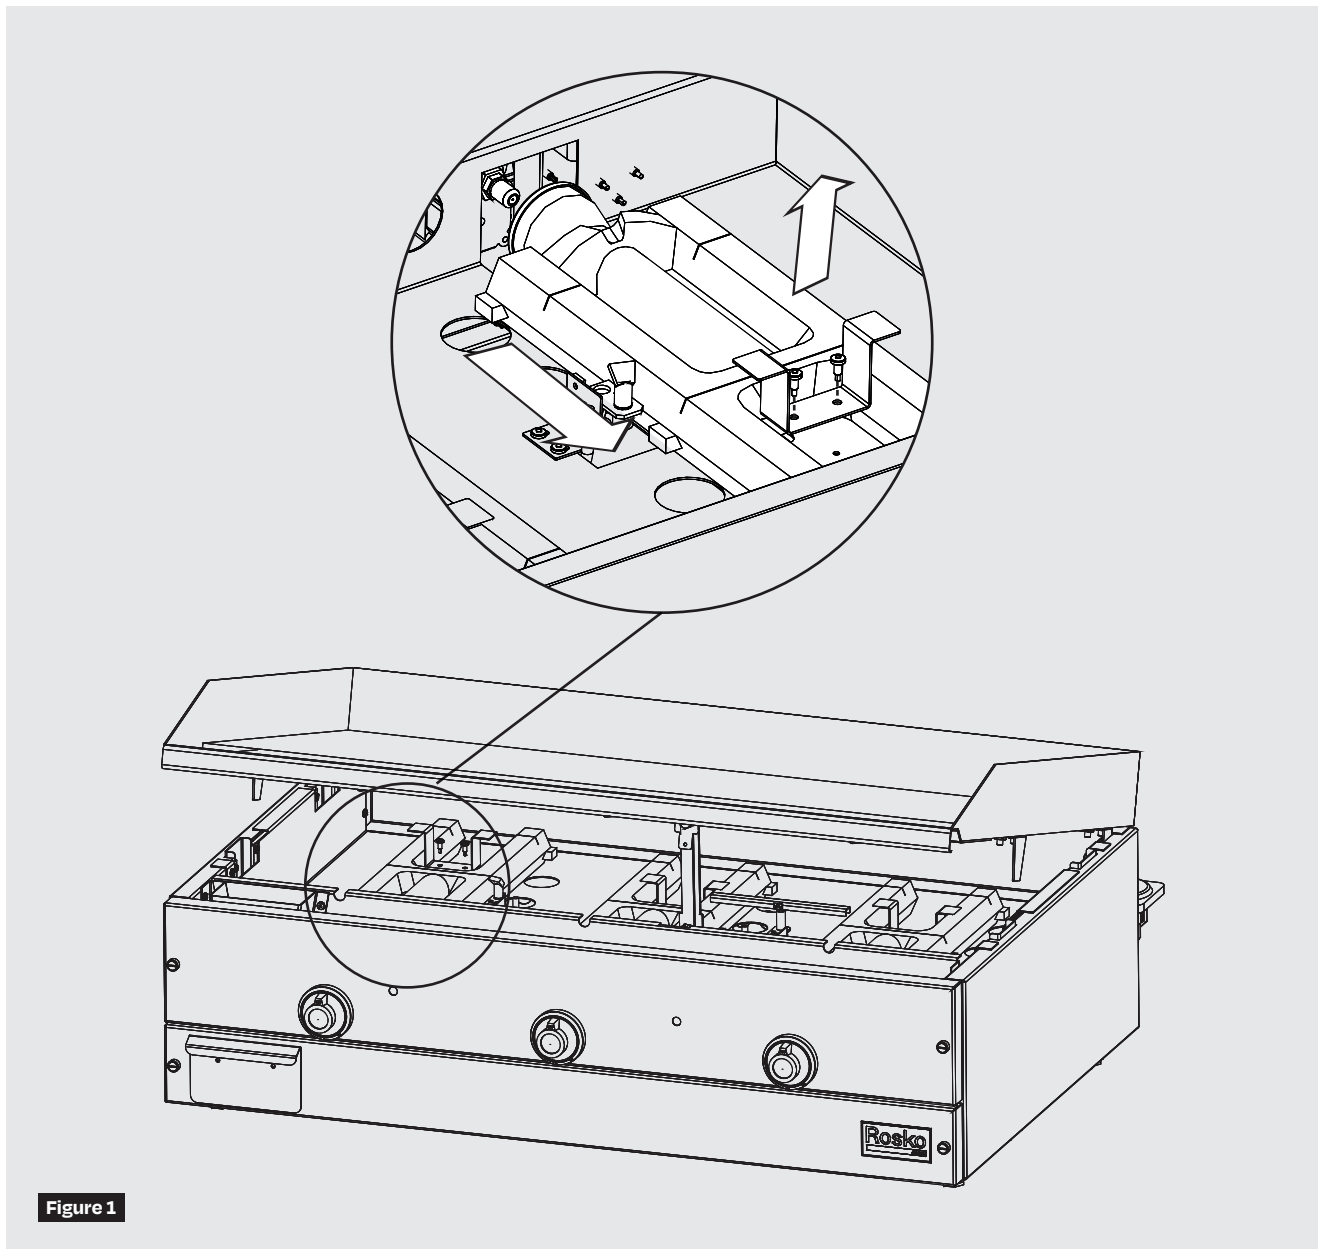

Figure 1
3. Pull the burner back to gain access to the gas injector located in the thermostat. Repeat for all burners. **(Figure 1)**